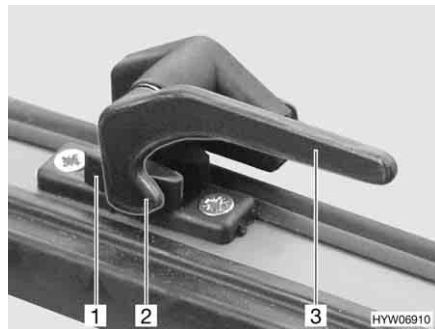

Fig. 47 Catch lever in "closed" position
- Turn the catch lever (Fig. 47,3) a quarter turn towards the centre of the window.
- Turn the catch lever (Fig. 47,3) a quarter turn towards the window frame. The locking catch (Fig. 47,2) is located on the inside of the window catch (Fig. 47,1).
- Firmly closed (Fig. 47)